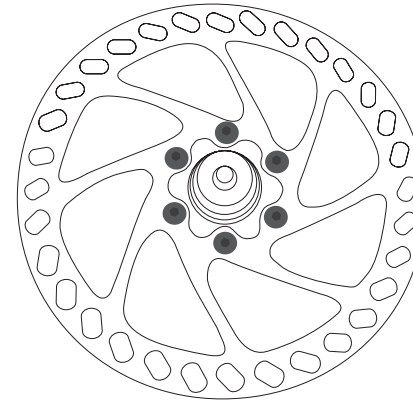
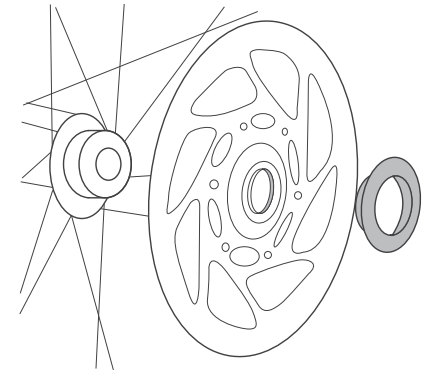

Figure 3. Rotor bolts
Figure 4. Centerlock nut
For wheels with disc brakes, make sure the brake rotor attachment (Figure 3 or Figure 4) is tight:
- Tighten rotor bolts (Figure 3) to 45-55 Lb•in (5-6.2 Nm).
- Tighten a centerlock nut (Figure 4) to 350 Lb•in (40.2 Nm).